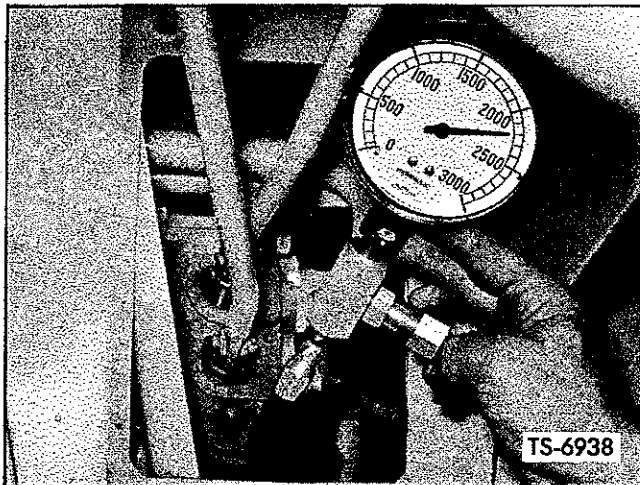

Fig. 34. Check Pressure — Boom and Bucket Control Valve
2. Remove pipe plug from control valve, and attach gauge as shown in Figure 34. Apply parking brake and block wheels.